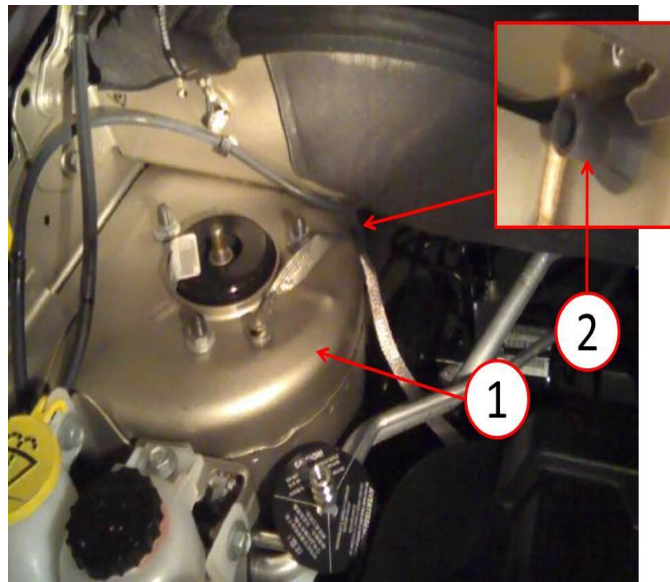

Fig. 5 Right Front Drain Tube
5. Route the new left side sunroof drain tube through the engine side of the bulkhead (Fig. 5).